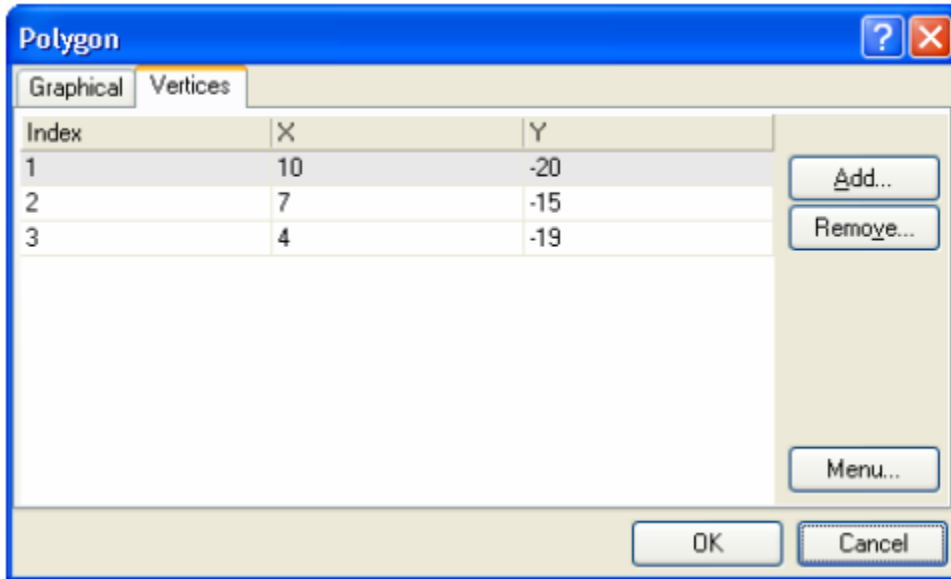

Figure 5. Use the coordinate information to confirm that your arrow head is correct.
6. The small arrow head is created out of a closed polygon. Select **Place » Polygon** [shortcut: **P** , **Y**] or click on the **Place Polygon** toolbar button (**Utilities** toolbar). Before you start placing the polygon press the **TAB** key to set the polygon properties in the *Polygon* dialog. Set the **Border Width** to **Smallest** , enable **Draw Solid** and set the fill and border colors to the same color (basic color 229), then click **OK** to close the dialog. Click to define each vertex of the triangle and right-click to end. Right-click or press **ESC** to end polygon placement mode. Figure 5 shows the coordinates of the polygon vertices.